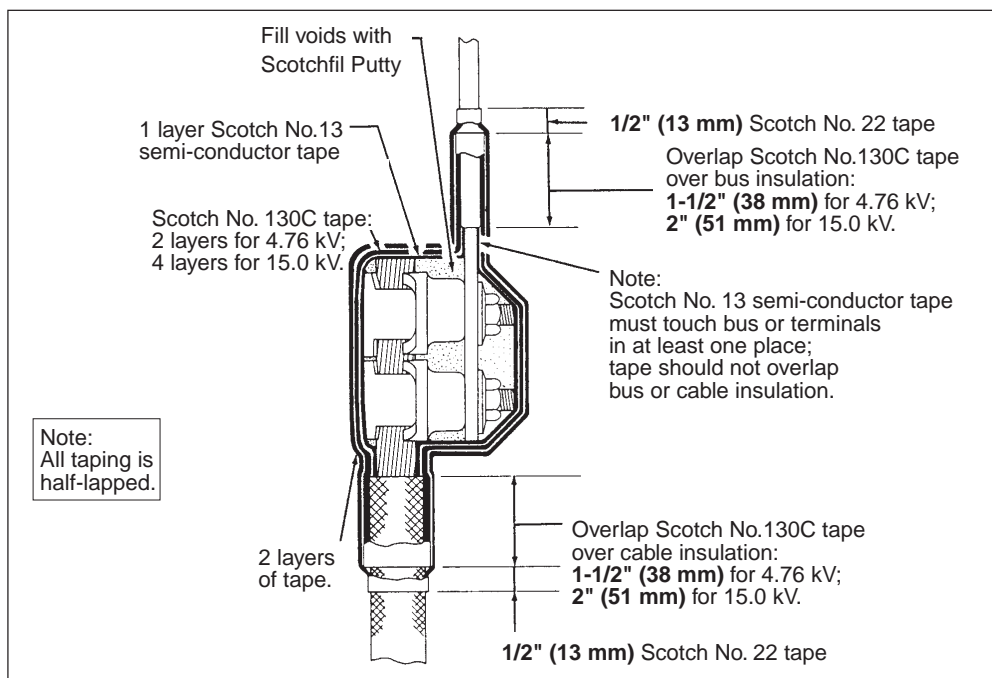

Figure 29: High voltage cable lug insulation
1. Place 3M brand Scotchfil putty around the lugs and bolts to reduce the concentrated field created by their irregular shapes (figure 29). Apply a layer of No. 13 semiconducting tape over the Scotchfil. Half-lap the tape, which must extend onto the conductor. Do not extend the tape up over the bus epoxy insulation. Apply Scotch brand No. 130C tape over the No. 13 tape. Half-lap this tape for two layers on 4.76 kV installations, and four layers on 8.25 kV and 15.0 kV installations. For 4.76 kV applications, extend this tape 1-1/2 in (38 mm) up over the bus insulation and cable insulation. Extend the tape 2 in (51 mm) for 15.0 kV applications.